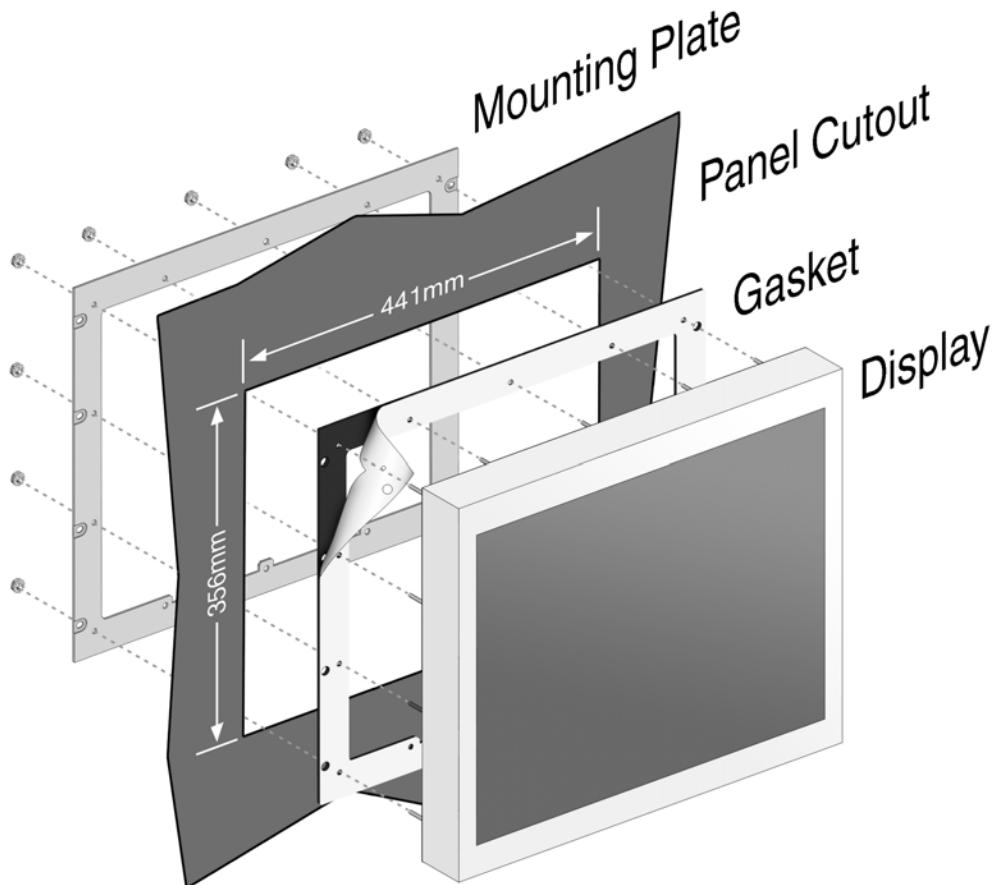

Figure 6: Panel Mounting
1. Ensure the cutout meets the suggested dimensions: 441mm (17.4") W x 356mm (14") H for standard installation (see Figure 6), 356mm H x 441mm W for portrait installation.
4. Align studs on the CYRAQ with the holes in mounting plate from rear of panel (as seen in Figure 6).